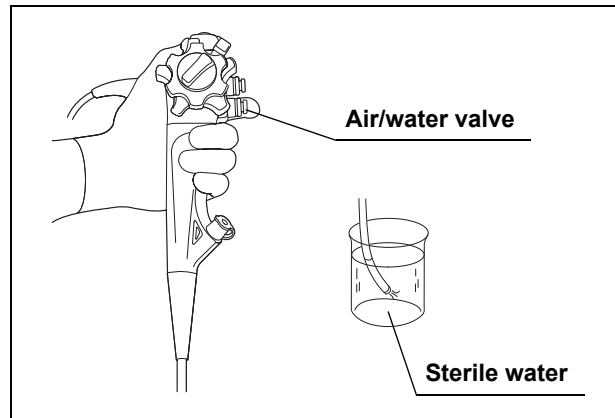

Figure 3.13
4. Block the hole of the air/water valve so that air bubbles are emitted. Press the airflow button and confirm that the bubbles from the air/water nozzle stop (see Figure 3.13).
5. Block the hole of the air/water valve so that air bubbles are emitted. Press the airflow regulator button and confirm that the lighting airflow regulator indicator changes to the indicator for the higher level (except that the “L” level indicator lights after the “H” level indicator), and that the amount of bubbles from the air/water nozzle vary corresponding to the airflow level setting (see Figure 3.13).
6. Remove the distal end of the endoscope from the sterile water and operate the endoscope’s water feeding function following the instructions given in the endoscope’s instruction manual. Confirm that the amount of water emitted from the air/water nozzle varies corresponding to the airflow level setting (see Figure 3.13).